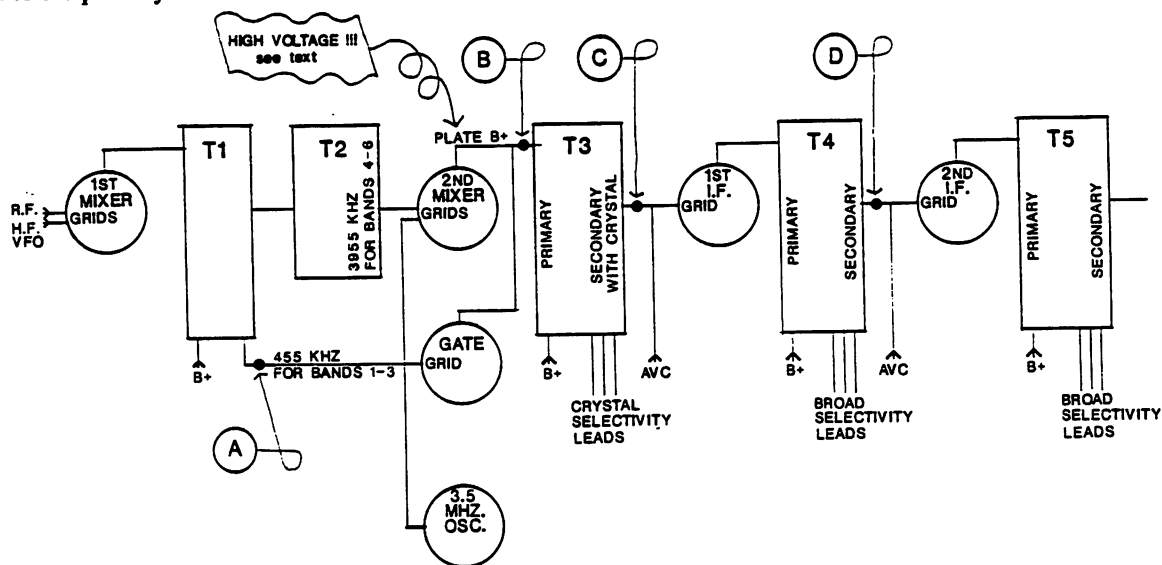

Figure 1
The 455 kHz i.f. transformer functions are almost identical in the two receivers, but I am showing the relevant section in the SP-600 in Figure 1 as the example because its partial double conversion feature allows a couple of additional filter placement alternatives.
Anyone wishing to consider alternative filter insertion points might want to read Dallas Lankford's article in *The Hollow State Newsletter No. 15*. He wrote about the placement of a mechanical filter in the HQ-180(A) and SP-600 receivers which for frequencies of 7 MHz and up both have a higher frequency i.f. stage preceding the 455 kHz one. Dr. Lankford said his concern was to obtain the best broadcast band performance by placing the filter as close as possible to the first mixer. He suggested A in Figure 1 as the place of insertion if the user would be satisfied with a filter usable only when the receiver was set at band 1, 2 or 3. For a filter usable on all bands, he recommended point B.